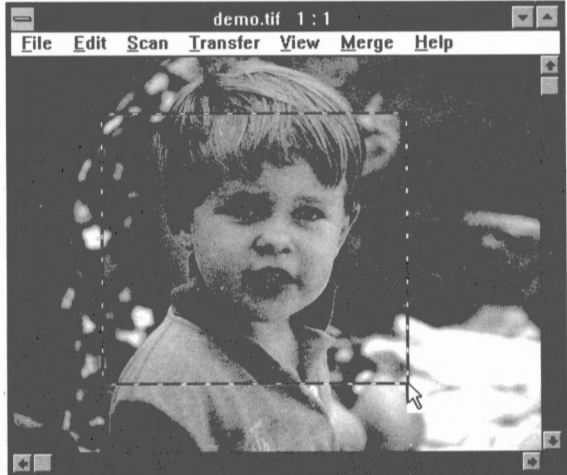

Figure 2-12. Selecting a Part of the Image
2. Drag the mouse and a box appears (Figure 2-12).